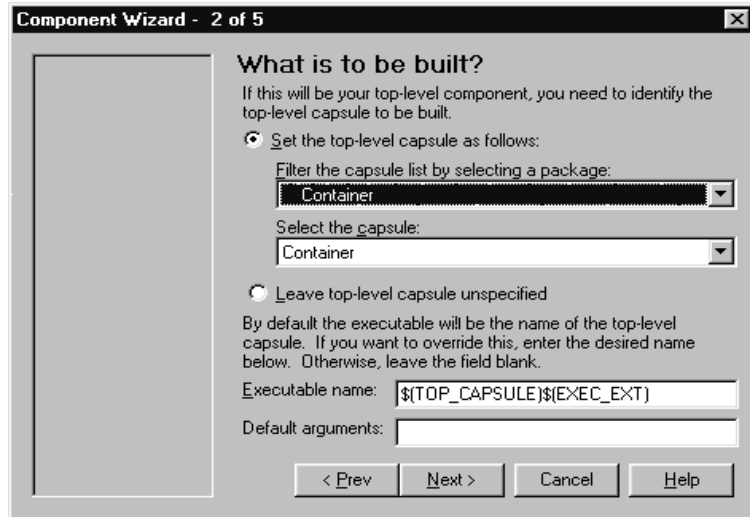

Figure 24 *Setting the top-level capsule - Iteration 1*
2. Click **Set the top-level capsule** as shown in Figure 24.